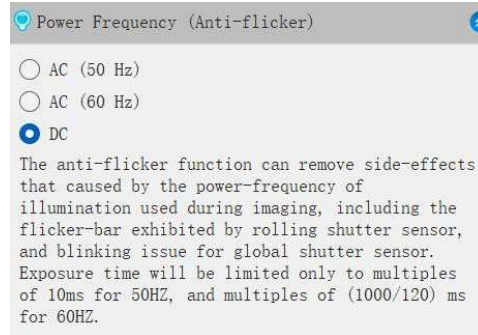

Figure 5-11 Example of AccuView LITE Light Source Frequency (anti-Flicker) Control Panel
The AccuView LITE light source frequency control panel is used to switch between AC (50Hz), AC (60Hz) and DC (DC) light source frequencies, as shown in Figure 5-11. It should be noted that the selection of light source frequency will affect the value of exposure time, and the relevant information is described in the text at the bottom of the panel.